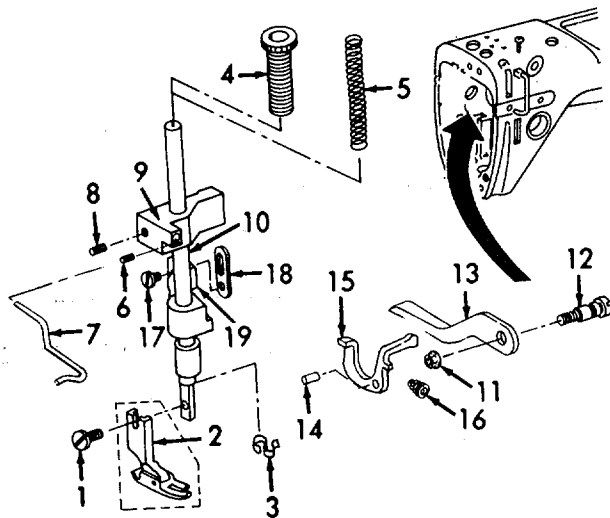

Figure 6-64. Presser Bar, Removal.
a. Removal (Refer to Figures 6-64 and 6-65).
- (1) Refer to Figure 6-64. Remove the screw (1) and the presser foot (2).
- (2) Remove the thread cutter (3).
- (3) Carefully unscrew and remove the regulator (4) and then remove the spring (5).
- (4) Loosen the setscrew (6) and remove the slack thread regulator (7).
- (5) Loosen the setscrew (8), securing the guide bracket (9) to the presser bar (10).
- (6) Remove the nut (11), pin (12), and lifter lever (13).
- (7) Use a drift and drive out the pin (14). Remove the tension release lever (15) and the spring (16).
- (8) Remove the screw (17) and the link (18).
- (9) Remove the presser bar (10) from the guide bracket (9). If the lifting bracket (19) is seized to the presser bar, a brass drift may be used to drive the needle bar out of the bushings and the brackets.